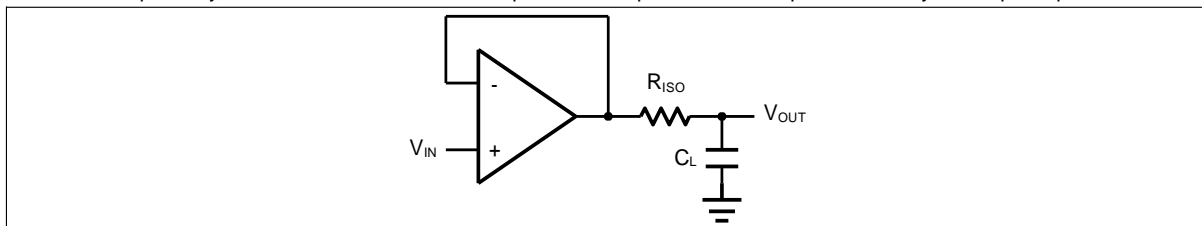
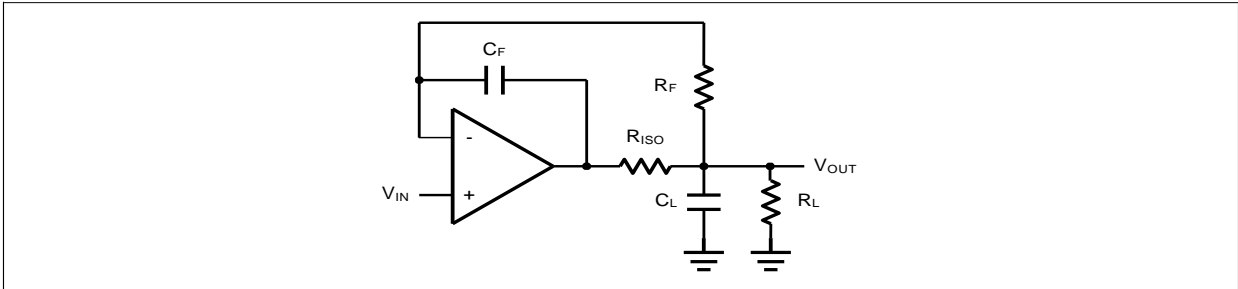

Figure 2. Indirectly Driving a Capacitive Load Using Isolation Resistor
Figure 3. Indirectly Driving a Capacitive Load with DC Accuracy
The HT862X family is optimized for bandwidth and speed, not for driving capacitive loads. Output capacitance will create a pole in the amplifier's feedback path, leading to excessive peaking and potential oscillation. If dealing with load capacitance is a requirement of the application, the two strategies to consider are (1) using a small resistor in series with the amplifier's output and the load capacitance and (2) reducing the bandwidth of the amplifier's feedback loop by increasing the overall noise gain. Figure 2. shows a unity gain follower using the series resistor strategy. The resistor isolates the output from the capacitance and, more importantly, creates a zero in the feedback path that compensates for the pole created by the output capacitance.
The circuit in *Figure 3* is an improvement to the one in *Figure 2*.  $R_F$  provides the DC accuracy by feed-forward the  $V_{IN}$  to  $R_L$ .  $C_F$